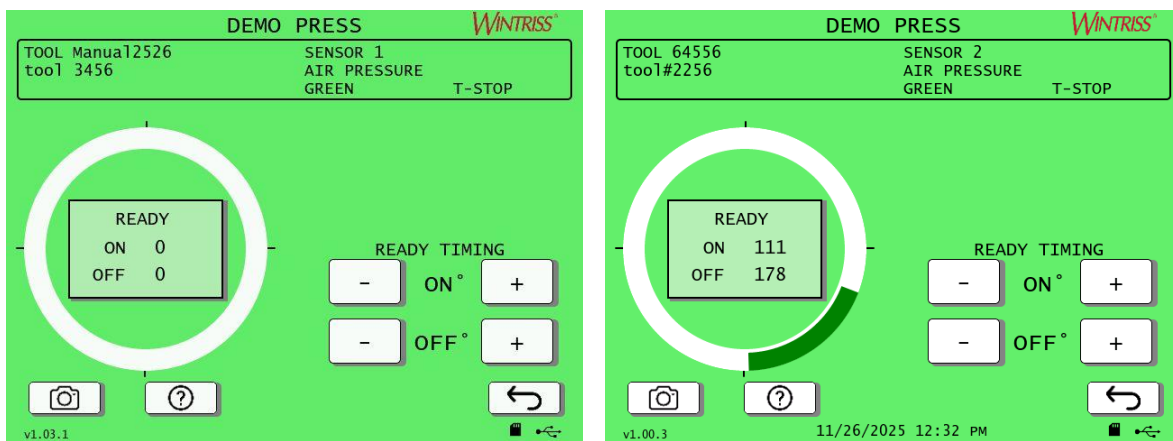

Figure 4-16. Ready Window Screens
9. If this sensor is a GREEN type sensor, set the ready window, the crank angle range during which the sensor must turn on. Press the entry box by READY WINDOW. The ready window screen opens, Figure 4-16.